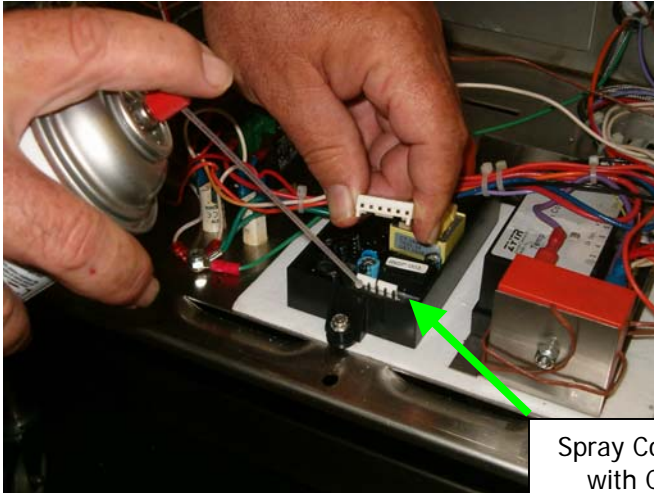
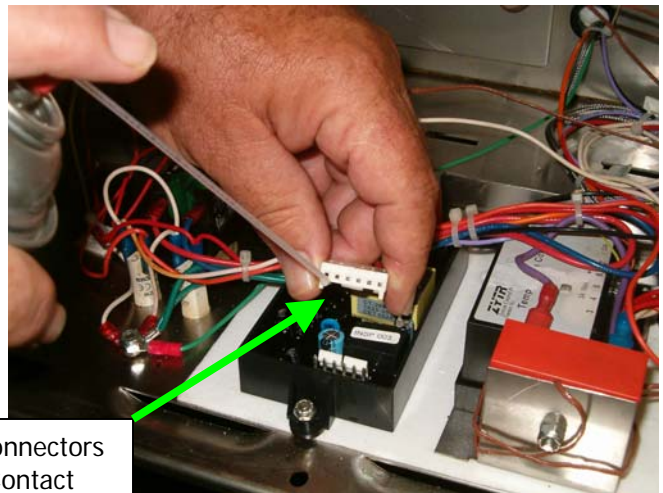

Fig 2
Fig. 3
3) Spray both the sockets in the ignition module wire harness connector and the ignition module connector header pins with a contact cleaner [McMaster-Carr part number 7437K15] (see Fig. 2 and Fig. 3).